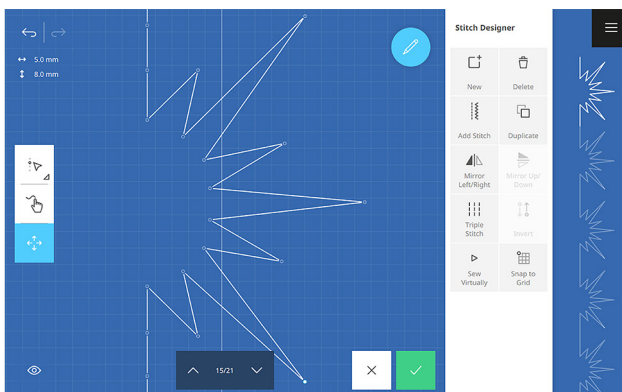

Fig. 29
9. Tap point 15 and move to reflect point 7 (Fig. 29).